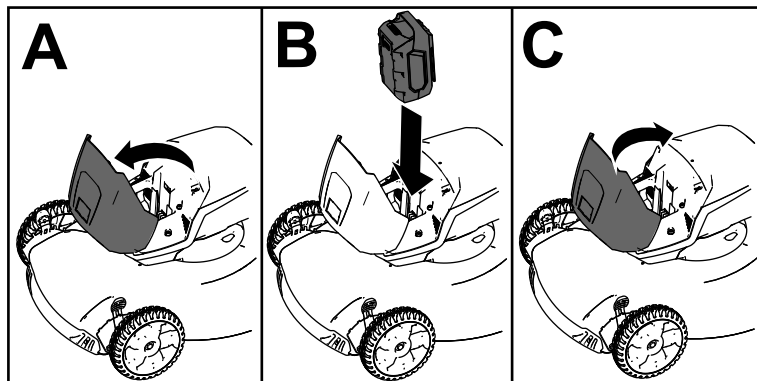

Figure 11
2. Lift up the battery-compartment lid (A of Figure 11).
3. Line up the cavity in the battery pack with the tongue on the machine and slide the battery pack into the compartment until it locks into place (B of Figure 11).
4. Close the battery-compartment lid (C of Figure 11).